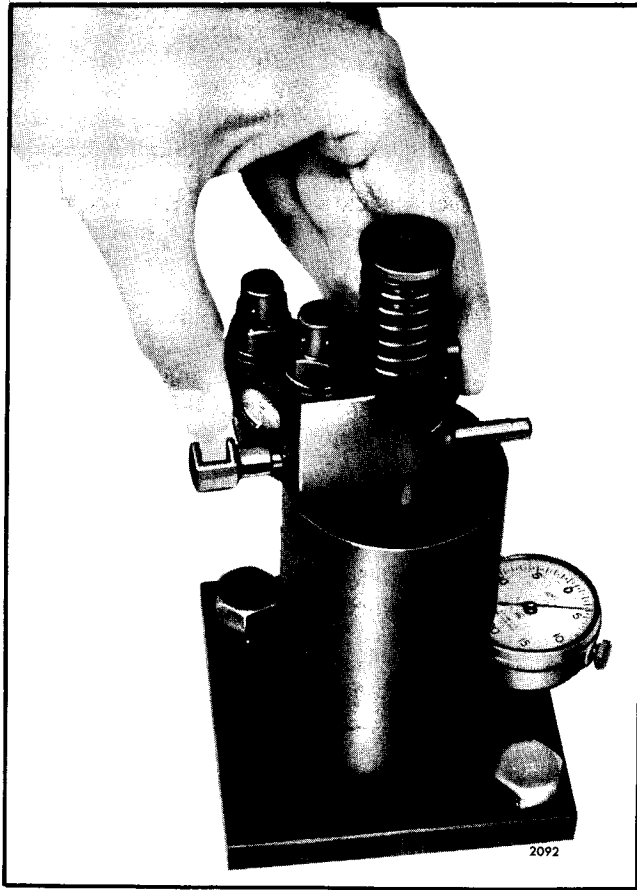

Fig. 43 - Checking Injector Spray Tip Concentricity with Tool J 5119
1. Place the injector in the concentricity gage J 5119 as shown in Fig. 43 and adjust the dial indicator to zero.